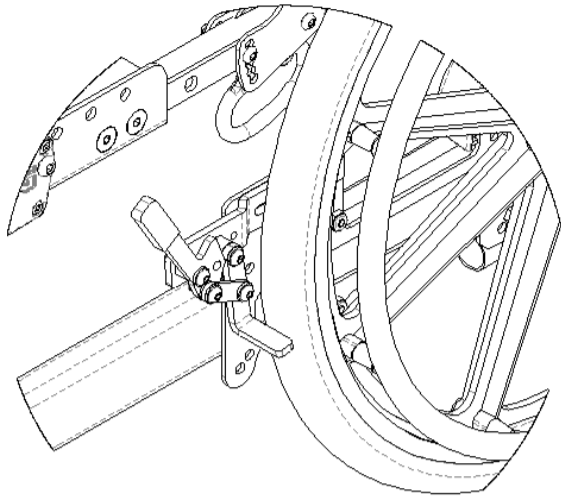

Figure 14.35: Push to Lock Wheel Locks (Standard)
1. To engage the push to lock wheel lock (see Figure 14.35), push the lever forward, away from the wheel, until it locks into place.